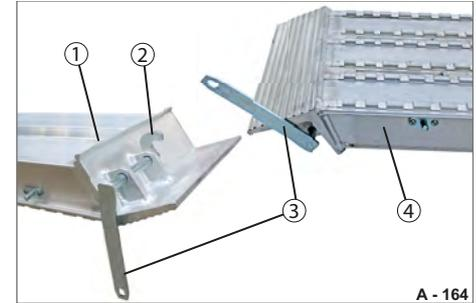

Fig. 175 Locking lever opened
- ▶ Check that the locking lever (Fig. 175/3) and securing hook (Fig. 175/2) are not deformed.